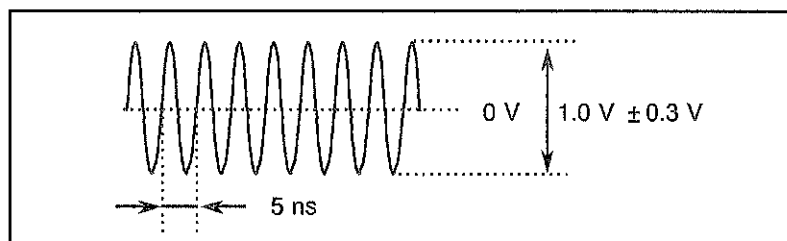

Figure 8-1 CLOCK Output Waveform (f = 200 MHz)
- (5) If the waveform monitored on the oscilloscope screen is a sine wave as shown in Figure 8-1, the clock output is correct.